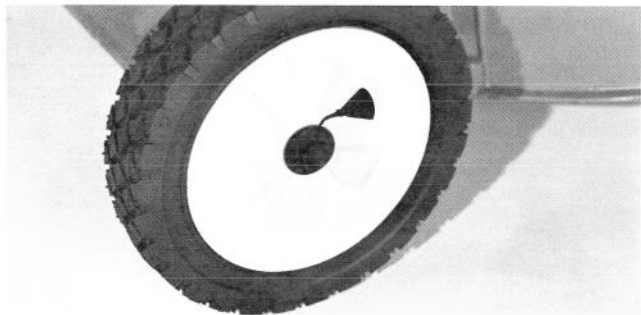

Figure 16
1. After every 25 hours of operation or at the end of the mowing season, apply 2 or 3 drops of light oil on the inside of all the wheel bolts (Fig. 16). Spin the wheel to distribute oil into the wheel bushings. Wipe up any excess oil.